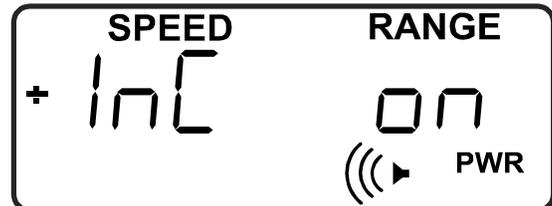

Figure 9
- Increment Weather/Obstruction Mode (Figure 9)